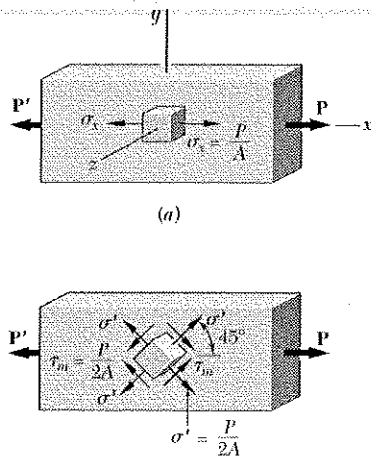

Fig. 1.40 (b)
2.72 For a member under axial loading, express the normal strain ϵ' in a direction forming an angle of 45° with the axis of the load in terms of the axial strain ϵ_x by (a) comparing the hypotenuses of the triangles shown in Fig. 2.54, which represent respectively an element before and after deformation, (b) using the values of the corresponding stresses σ' and σ_x shown in Fig. 1.40, and the generalized Hooke's law.